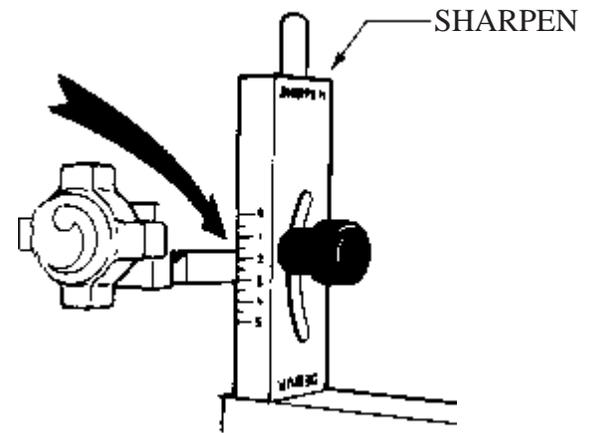

Fig. 3
3. Match original angle as close as possible by placing clamped blade against grinding wheel (motor off) and adjust clamp angle until cutting edge is lying flat against wheel. This should be between 10° and 15° . (See figure 3)